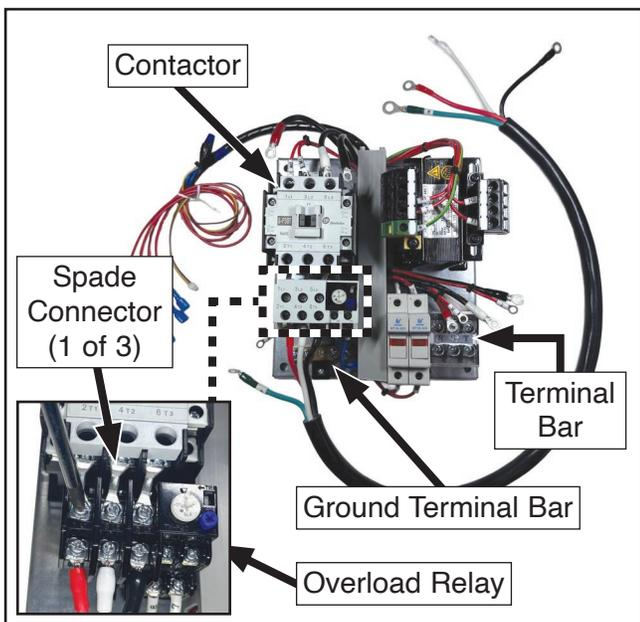

Figure 14. Connecting spade connectors to 440V overload relay.
10. Gently pull cover off overload relay on 440V mounting board and connect spade connectors from contactor to overload relay terminals 1L1, 3L2, 5L3 (see **Figure 14**), then install overload relay cover.